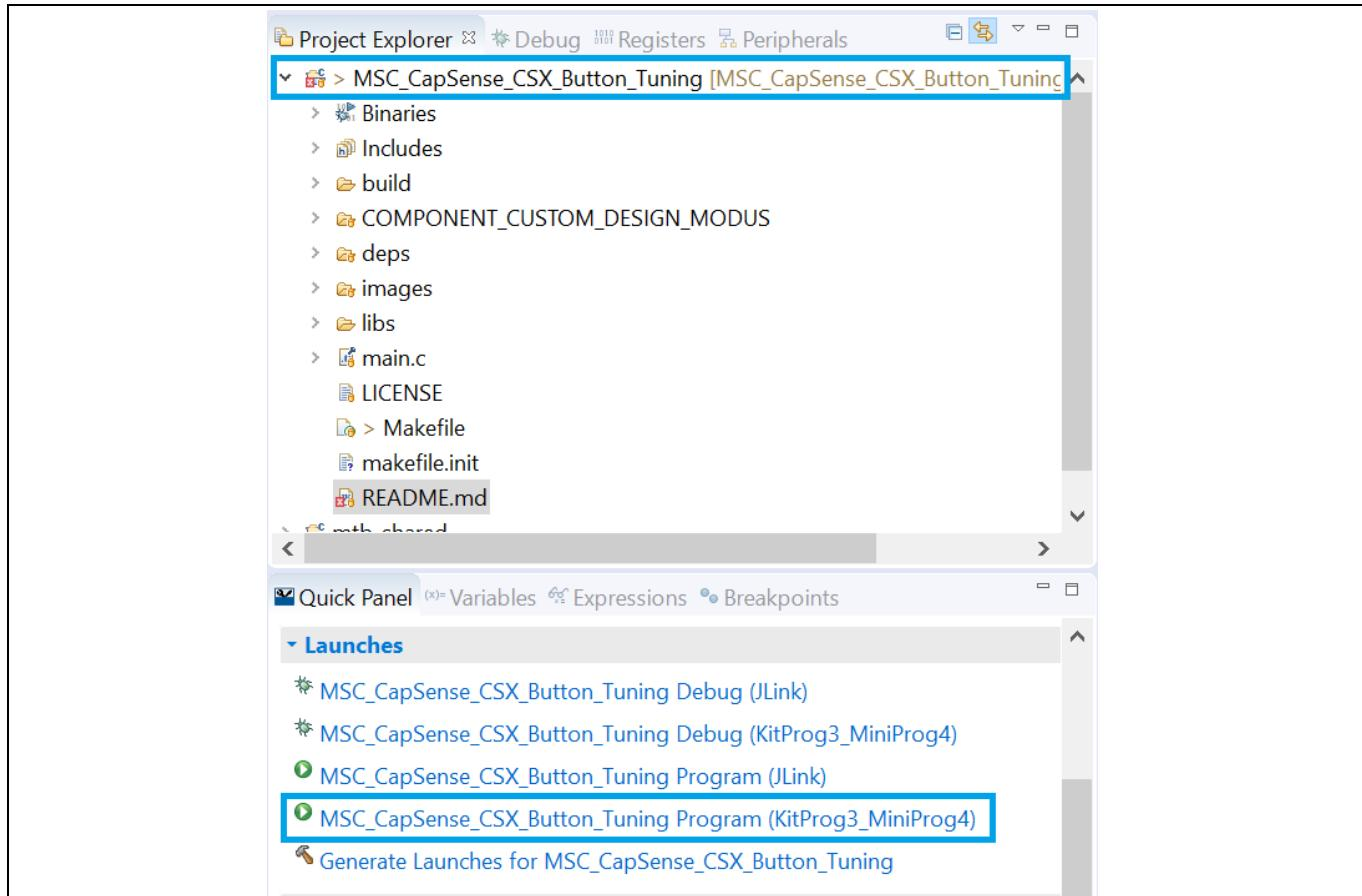

Figure 11 Build and program the code example
- To build and program a PSoC™ 4100S Max MCU application, in the Project Explorer, select <App_Name> project. In the Quick Panel, scroll to the Launches section and click the <App_Name> Program (KitProg3_MiniProg4) configuration as shown in **Figure 11**.